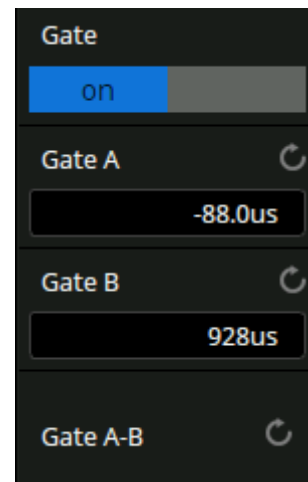

Figure 12.19 Gate Menu
- When enabled the gate settings will appear in the measure config menu. See figure 12.19